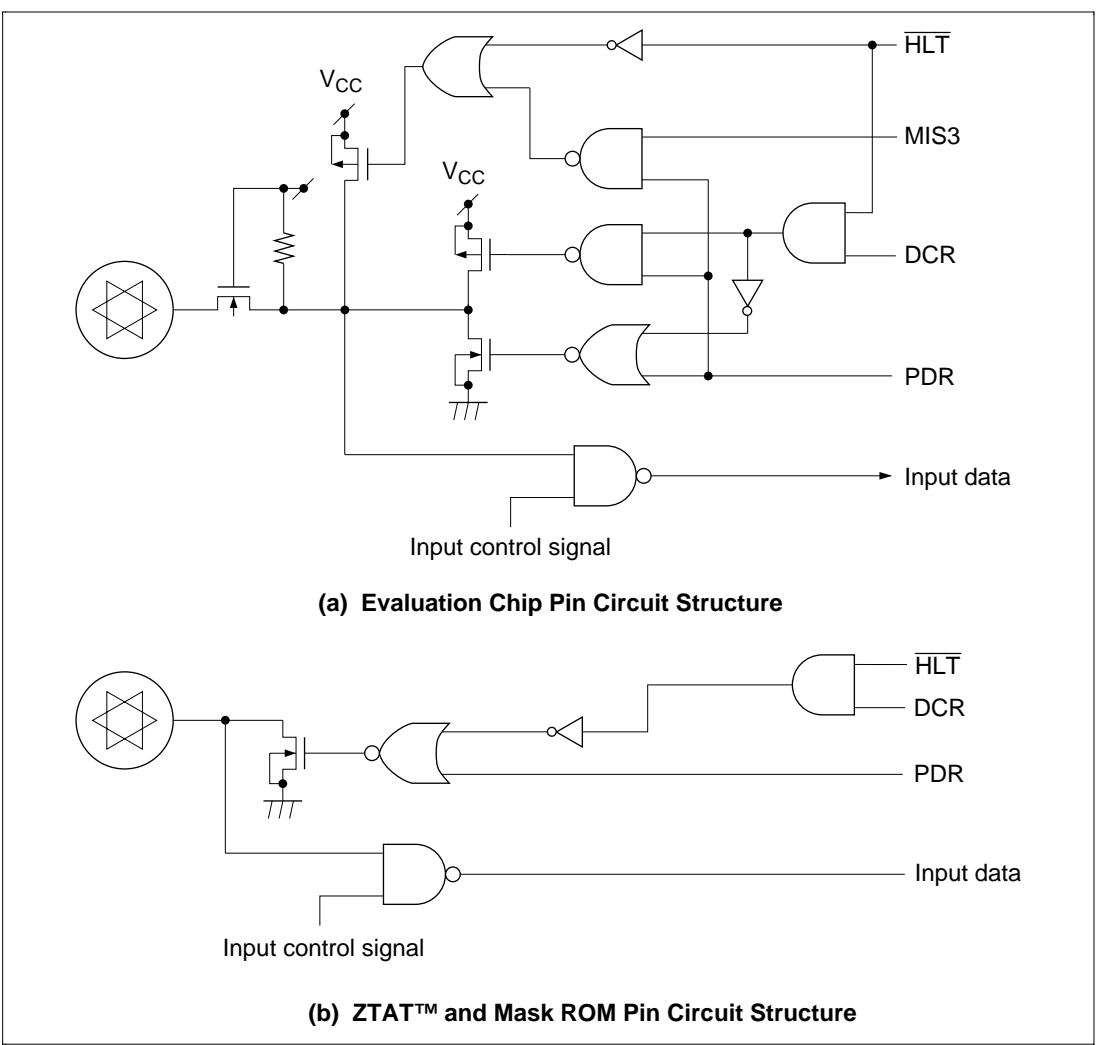

Figure 10-4 Medium Voltage NMOS Open Drain Pin Circuits
- In the HD404358 Series evaluation chip set, the circuits for the medium voltage NMOS open drain pins (the R2 port pins) differ from the ZTAT™ and the mask ROM microcomputer versions as shown in figure 10-4. Although the outputs in both the ZTAT™ and mask ROM versions can be set to high impedance by the combinations listed in table 10-11, these outputs cannot be set to high impedance in the evaluation chip set. Please keep this in mind when using the evaluation chip set.
Figure 10-4 shows the circuit for the medium voltage NMOS open drain pins.